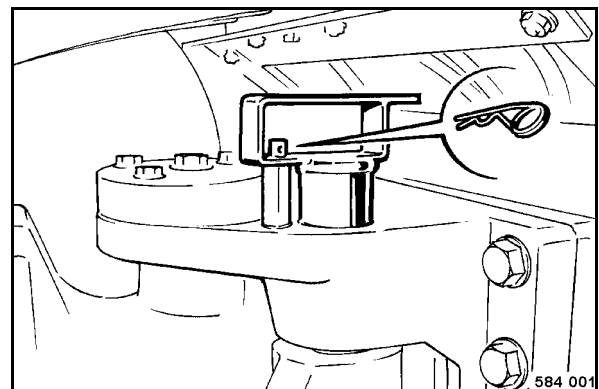

Fig. 119
- After the transport loosen the articulation lock (Fig. 119) again, fix it in its receptacle and lock it with the spring plug.